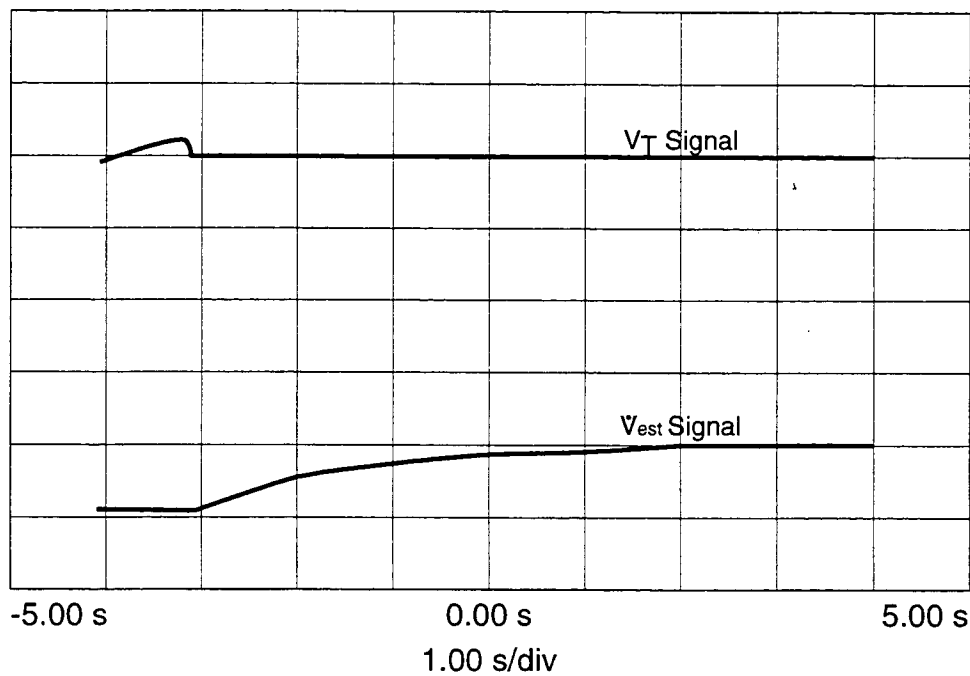

Figure 7-7. Spontaneous Mode, Ramp Up.
- Step 3 Block and hold the orifice closed and observe that the V_{est} signal starts to ramp toward 0 V after a short delay, and that the V_T signal also goes to 0 V. Be sure that V_{est} is at 0 V before continuing. See Figure 7-7.